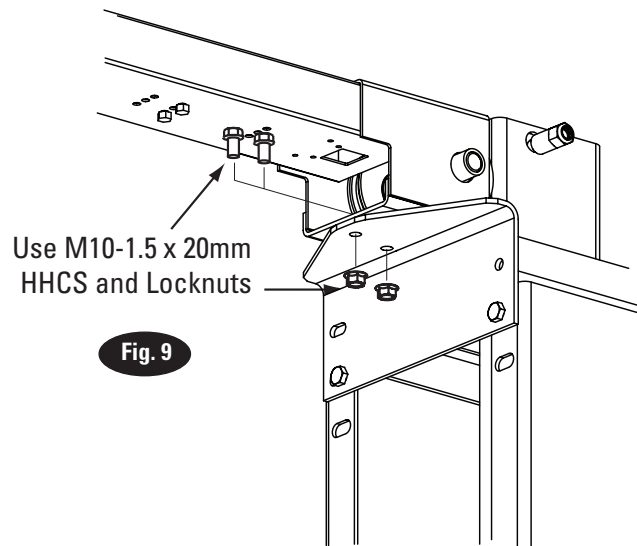

Fig. 9
9. Overhead Installation: Install overhead assembly to Mounting Bracket with (4) M10-1.5 x 20mm HHCS, and (4) M10-1.5 Flanged Locknut on both columns Fig. 9. Tighten bolts at center of overhead assembly.
10. Power Unit: First install a star washer onto all of the (4) 5/16"-18NC x 1-1/2" HHCS. This is very important for grounding. Put the (4) 5/16"-18NC x 1-1/2" HHCS thru holes in power unit bracket, Fig. 9. Mount unit with motor up to column bracket and install (4) 5/16" star washers and 5/16" Nuts. Install and hand tighten fitting to pump until O-ring is seated. Continue to tighten the locknut until the nut and washer bottom out against the pump manifold.